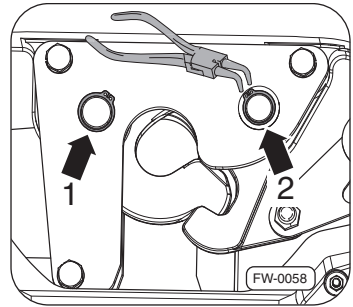

Fig. 37 · Fitting the circlips
3. Fit and secure the circlips ⇒Fig. 37, –arrow 1– and –arrow 2–.